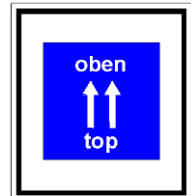

Figure 6: Position Orientation
- Specific gearboxes are provided with additional adhesive decals for the positional orientation (see Figure 6)